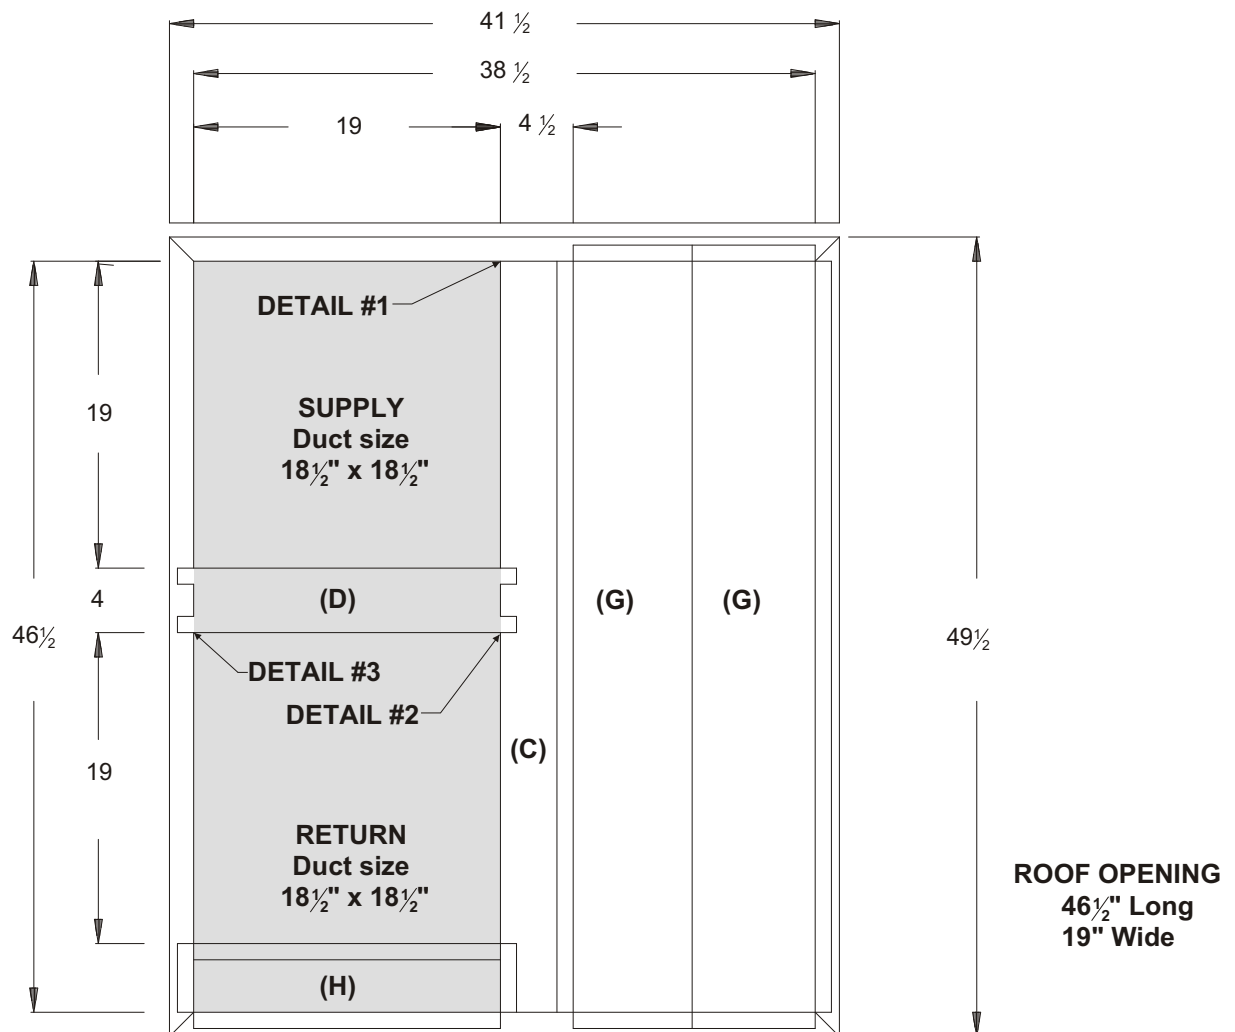

Figure 7
Install the duct horizontal support (C) as shown with opening over the desired duct location (Figure 7).
Install the vertical duct support (D) as shown (Figure 7).
Install the insulated pans (G) and (H) as shown (Figure 7).
Figure 7 is shown without parts (E) and (F)